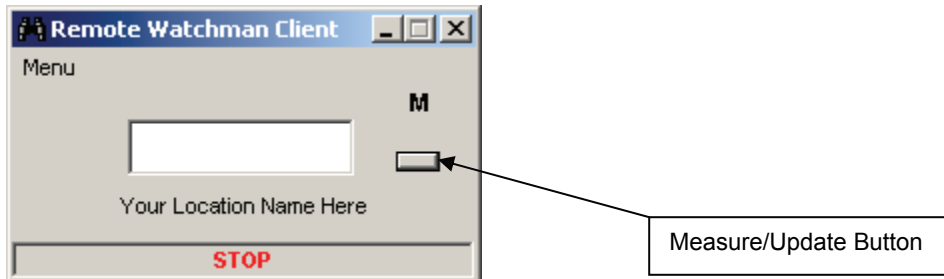

Figure 1
2. Click on the word **Menu** as shown in Figure 1 above. Choose Settings from the drop-down menu and the Sensor Tab will be displayed.
5. Click the measure/update button to the right of the display as shown in Figure 1 and note that the software will attempt to connect to the SSD. Progress messages will be displayed (CONNECTING, SENDING, DISCOVER).